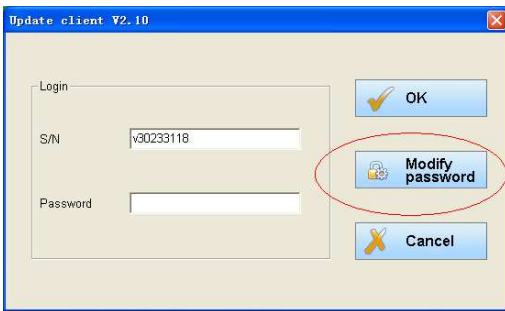
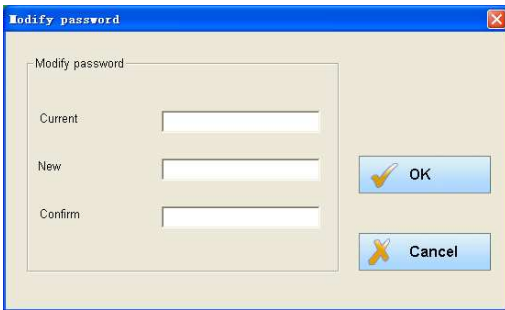

Fig 2-4 Modify password
Fig 2-5 Modify password screen
(1) After inputting the serial number, click on **[Modify password]** as shown in Fig 2-4 to go to the next step as Fig 2-5.
(2) Input the current password and new password, then click on **[OK]** for confirmation.